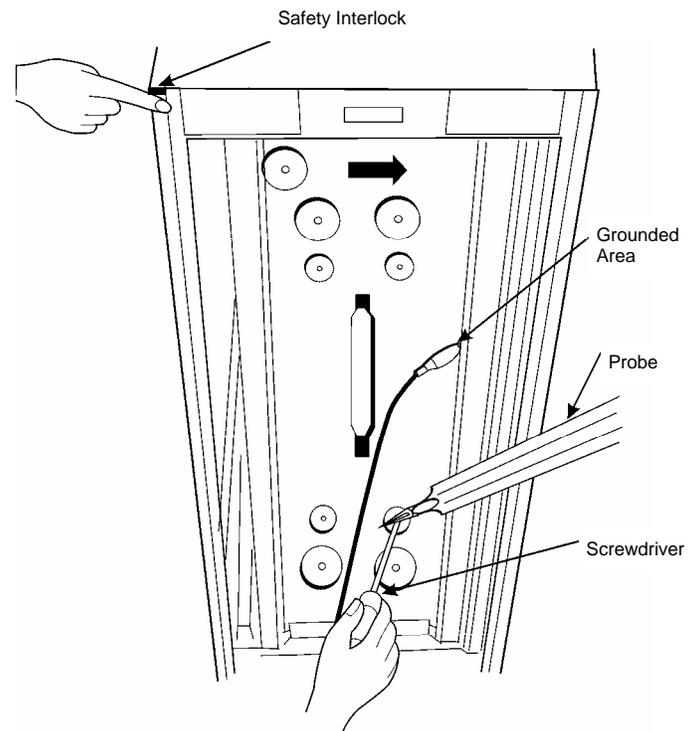

Fig. 9 — Testing Voltage At Cell
2. Insert a thin shafted screwdriver 2 to 3 inches into the hole in the round end plate insulator. See Fig. 9.